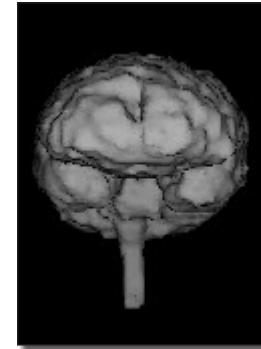

Figure 1
5. Note the number of polygons generated (approximately 37,504) and choose **Generate > Render** to view the extracted surface (figure 1).